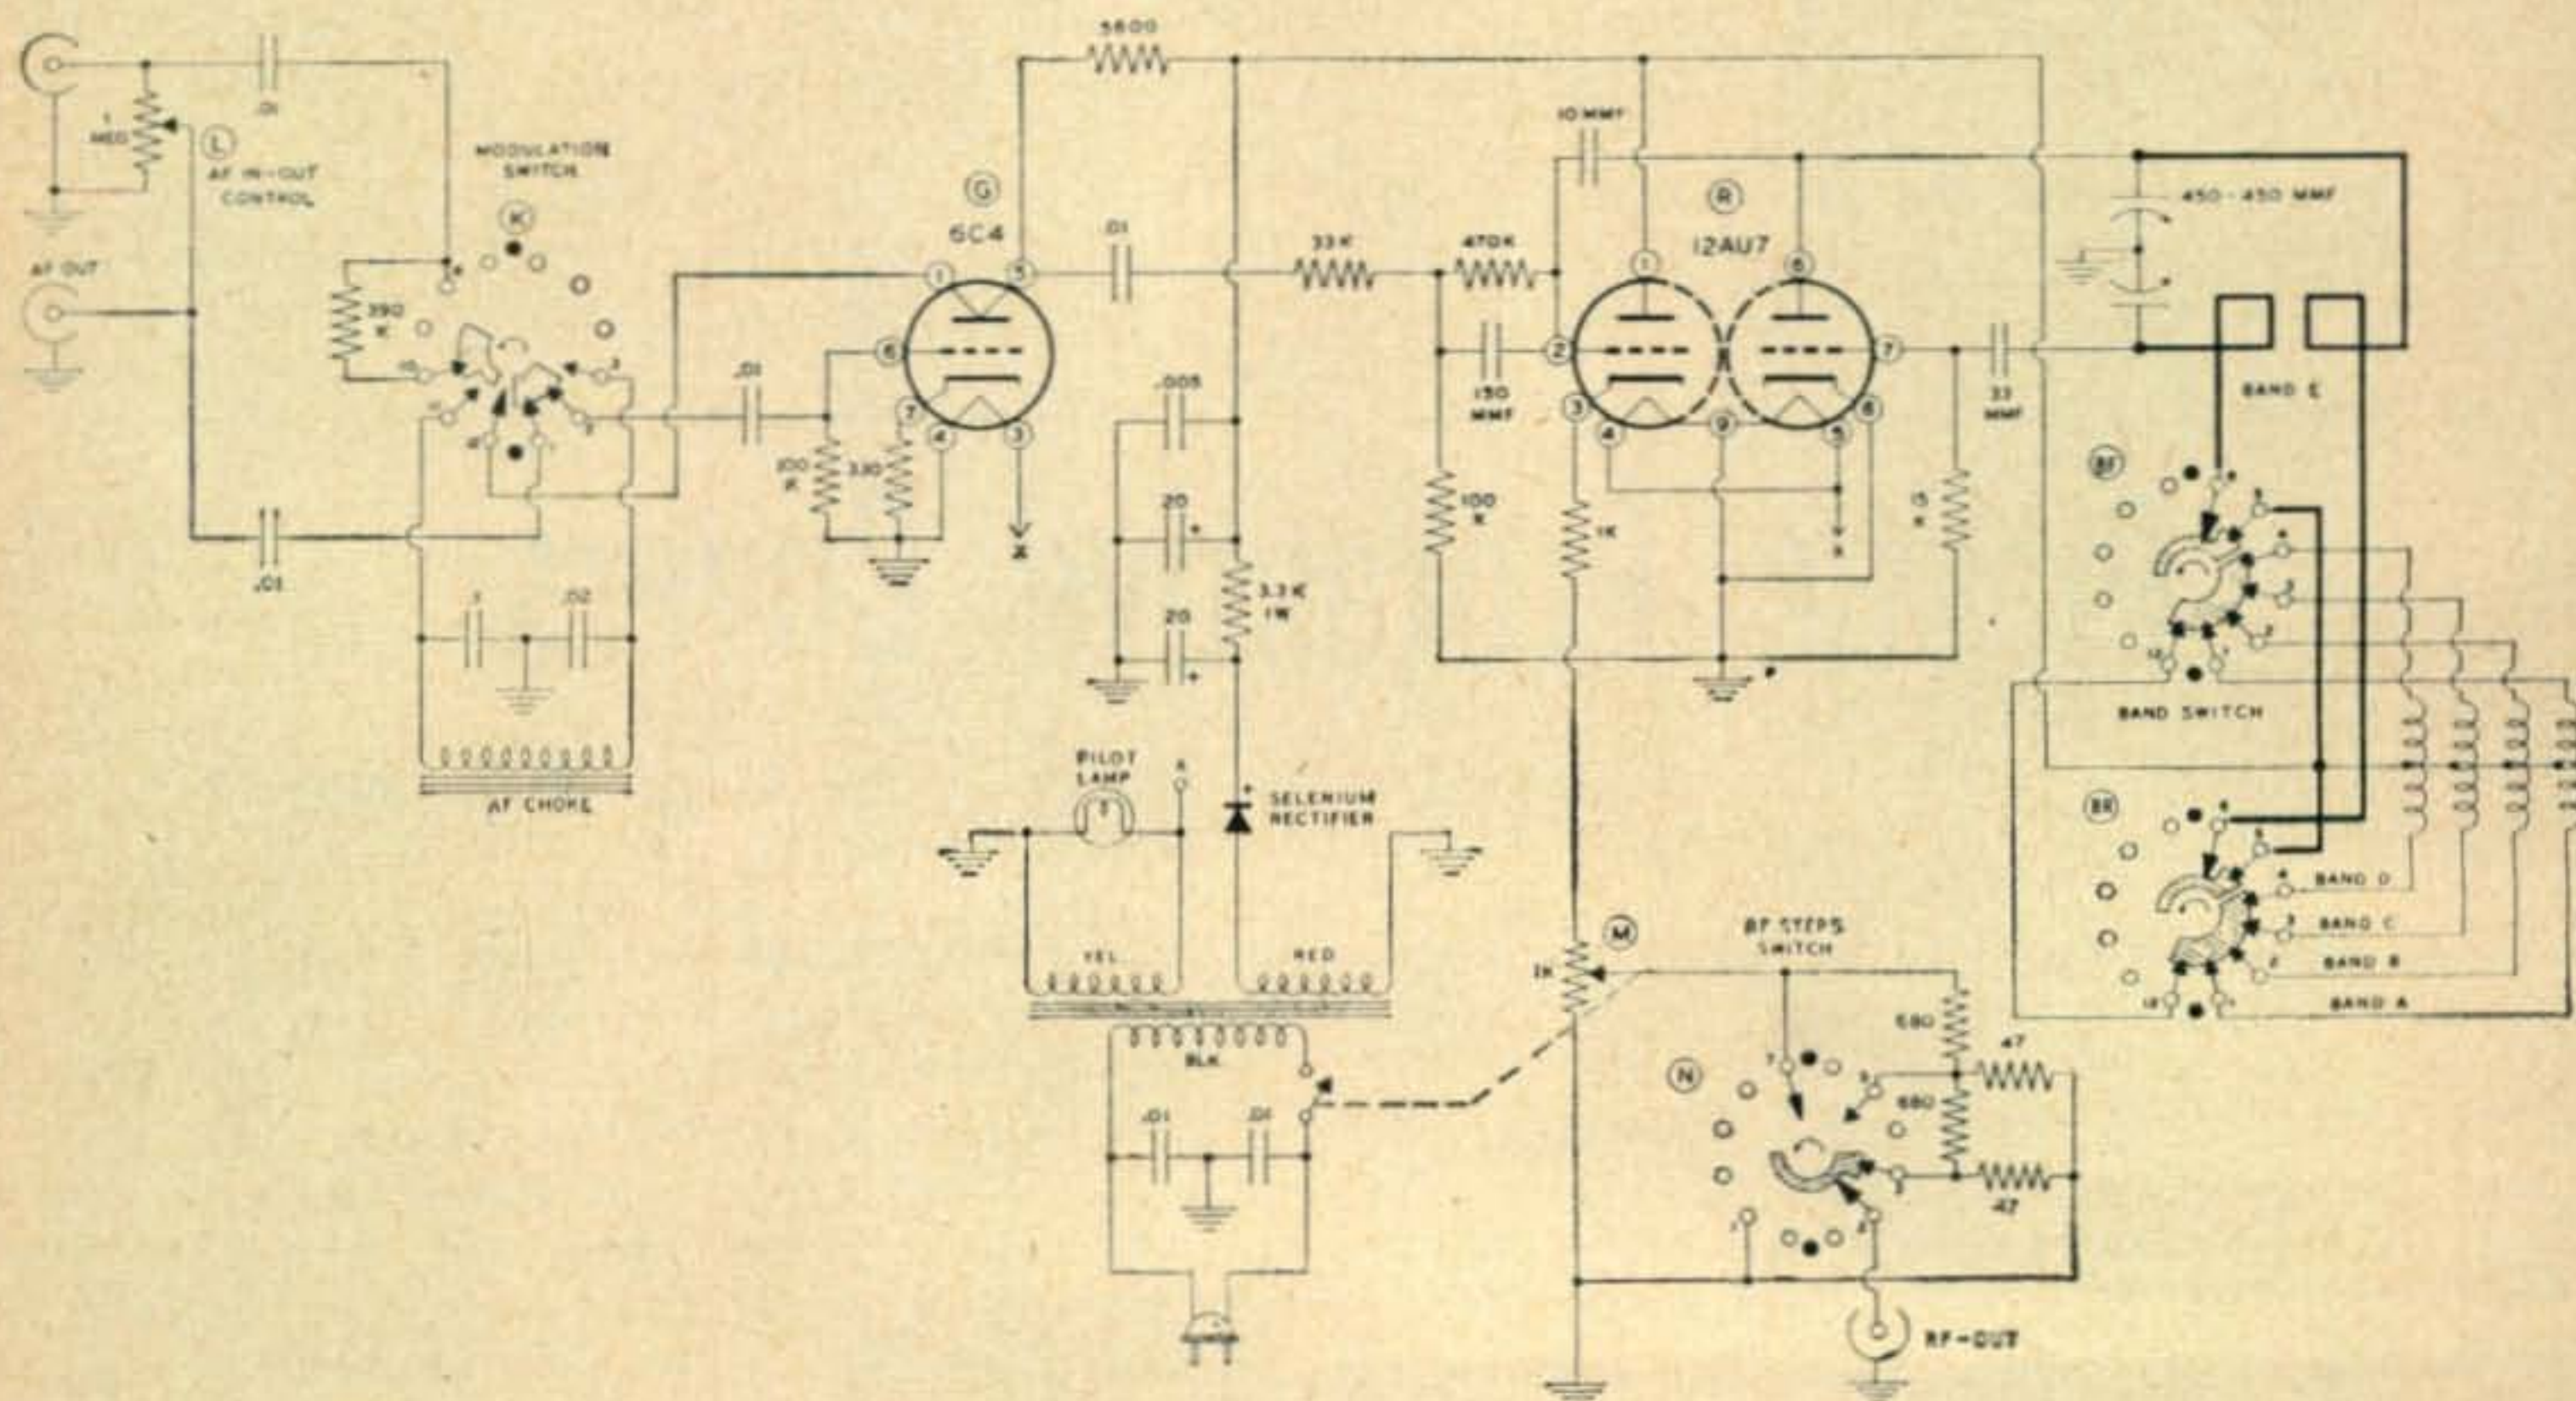

Fig. 1—Circuit of the Heathkit SG-8.
in fig 1. The 6C4 triode is the modulator, and is connected as a Colpitts oscillator. AF output is tapped off the plate (terminal 5) and fed to the grid of the cathode follower through a resistive network. When the modulation switch is thrown to "EXT" position (as shown in fig 1), the 6C4 functions as an AF amplifier, an external modulating signal may be introduced at "AF IN" and its amplitude varied by the potentiometer (L, in fig 1). With the modulation switch at "INT" position, the audio oscillator not only modulates the rf output through mixing in the cathode follower, but is also accessible and variable through the same potentiometer (L) at the "AF OUT" terminal.